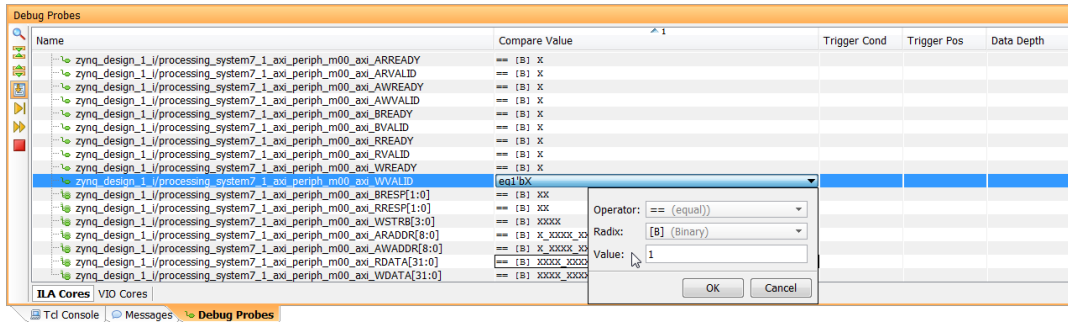

Figure 71: Debug Probe View
- First, click the **Compare Value** column and the ***WVALID** row, as shown in (Figure 71).